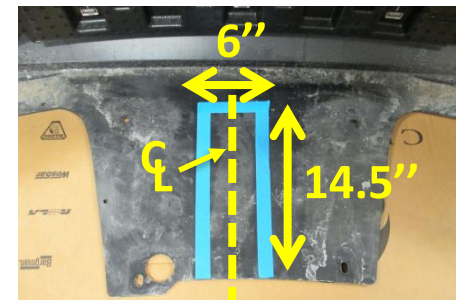

Figure 5
- Bottom fascia trimming** – locate the center of bottom panel and trim 14.5" tall by 6" wide area, see **Figure 5**. Make additional trimming if needed.
5. Bottom fascia trimming – locate the center of bottom panel and trim 14.5" tall by 6" wide area, see Figure 5. Make additional trimming if needed.